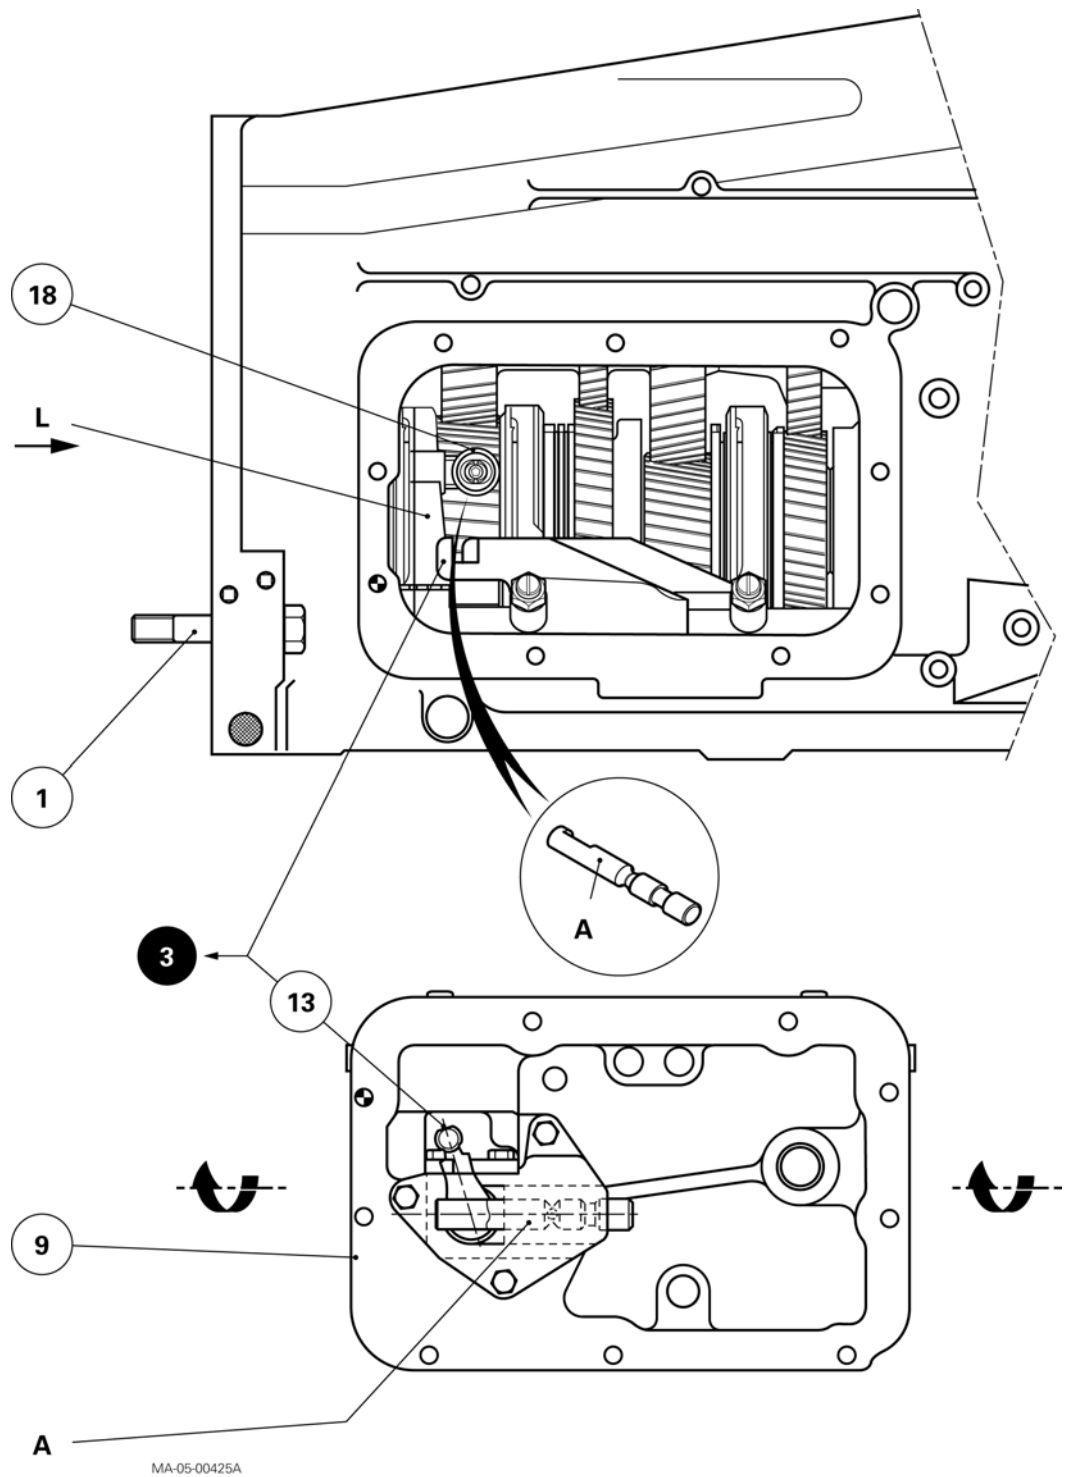

Fig. 8
16. Place the 3rd - 4th gear fork in ratio 3 (Fig. 8)
IMPORTANT: Before refitting the cover, check for the presence of the screw (1) (Fig. 8).
18. Turn the finger (13) (Fig. 8) toward the left.
21. Refit the grounding lug (2). Fit and tighten screws (3) (4) and the nut (6) to a torque of 50 - 70 Nm.
23. Reconnect the wiring harnesses to the temperature probe (5) and the Neutral position switch.
Legend Fig. 8